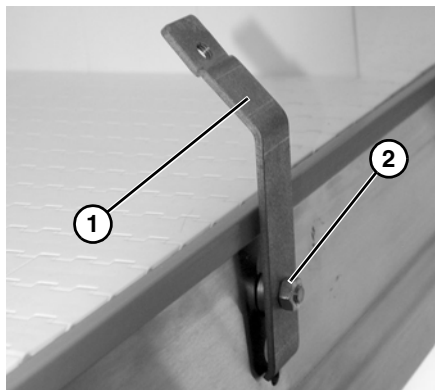

Figure 26
2. Attach the guide mounting brackets (**Figure 26, item 1**) to the conveyor with hex nuts (**Figure 26, item 2**). Hand tighten only at this time.